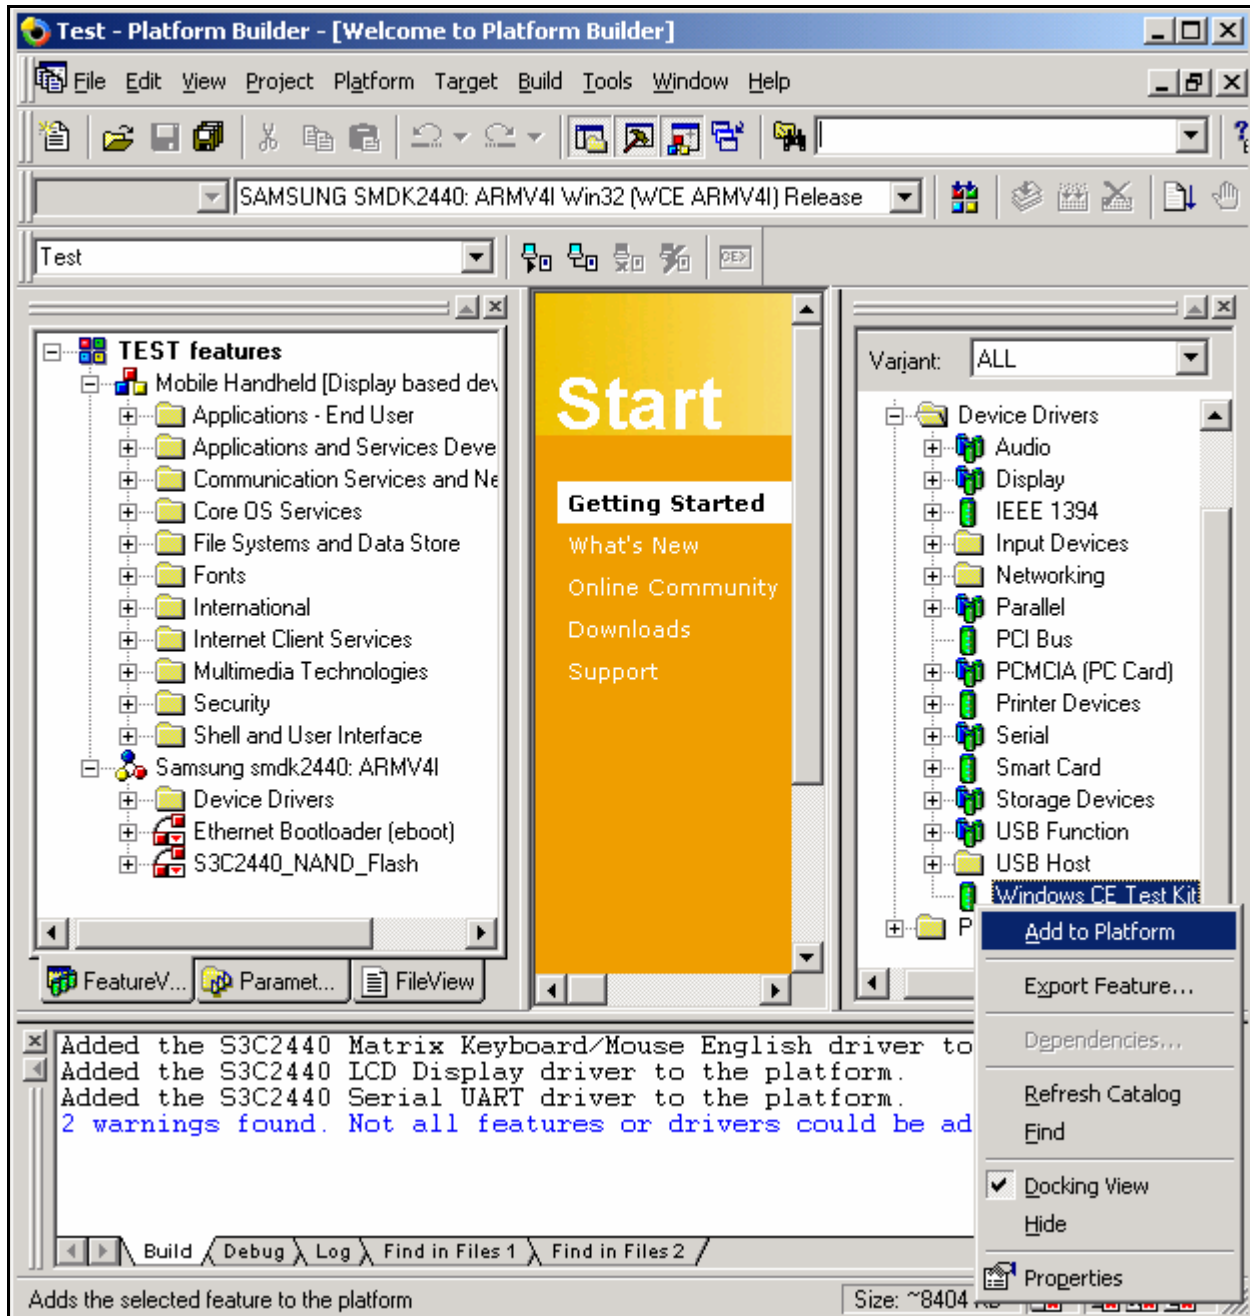

Figure 3-2 Adding Windows CE Test Kit to Features
2. Expand the Device Drivers node In the Catalog window, right click on Windows CE Test Kit and then select Add to Platform as shown below in the figure 3-2.